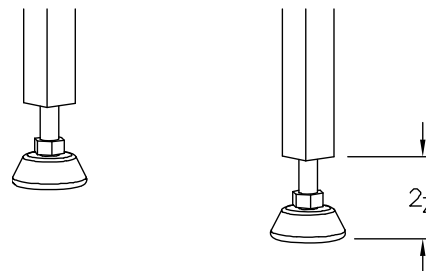

Figure 2-28. Hand-feed Leveling Pads
4. Initially set the Hand-Feed Conveyor's leveling pads at approximately 2-1/4" (5.7 cm) as shown in Figure 2-28